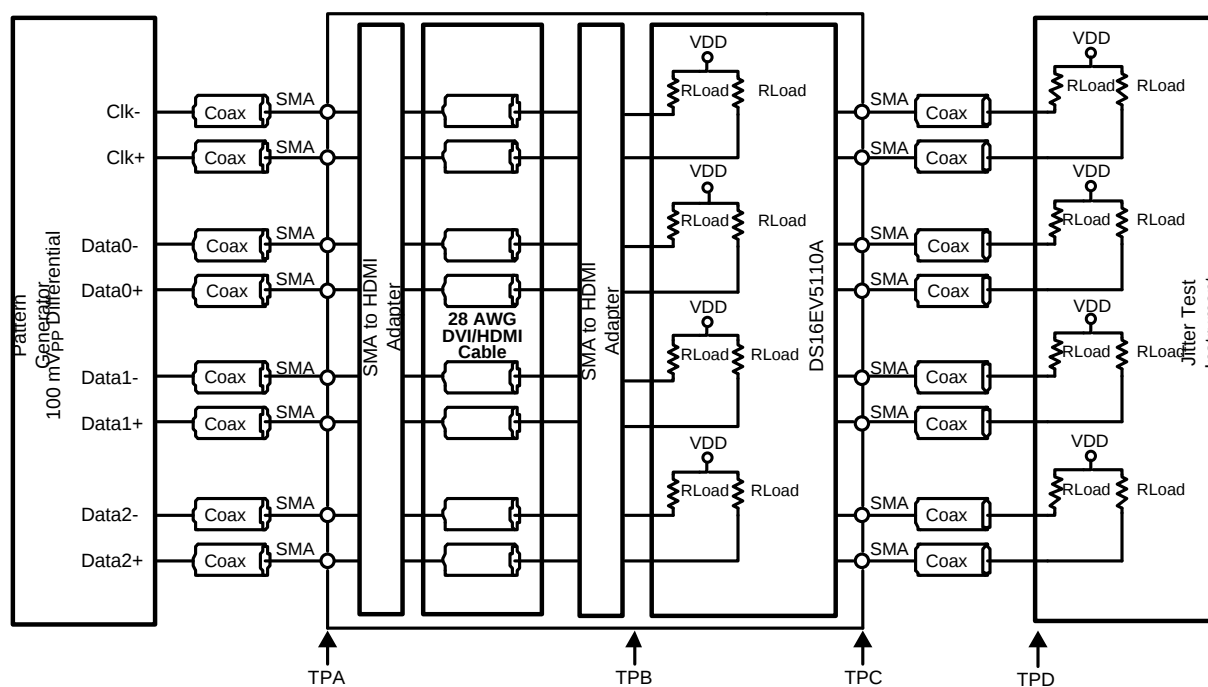

Figure 2. Test Setup Diagram for Jitter Measurement
(3) Allowed supply noise (mV_{P-P} sine wave) under typical conditions.
(4) Specification is guaranteed by characterization and is not tested in production.
(5) Deterministic jitter is measured at the differential outputs (TPC of Figure 2), minus the deterministic jitter before the test channel (TPA of Figure 2). Random jitter is removed through the use of averaging or similar means.
(6) Total Jitter is defined as peak-to-peak deterministic jitter from ⁰ + 14.2 times random jitter in ps_{rms}.
(7) Random jitter contributed by the equalizer is defined as $\sqrt{J_{OUT}^2 - J_{IN}^2}$. J_{OUT} is the random jitter at equalizer outputs in ps_{rms}, see TPC of Figure 2; J_{IN} is the random jitter at the input of the equalizer in ps_{rms}, see TPA of Figure 2.